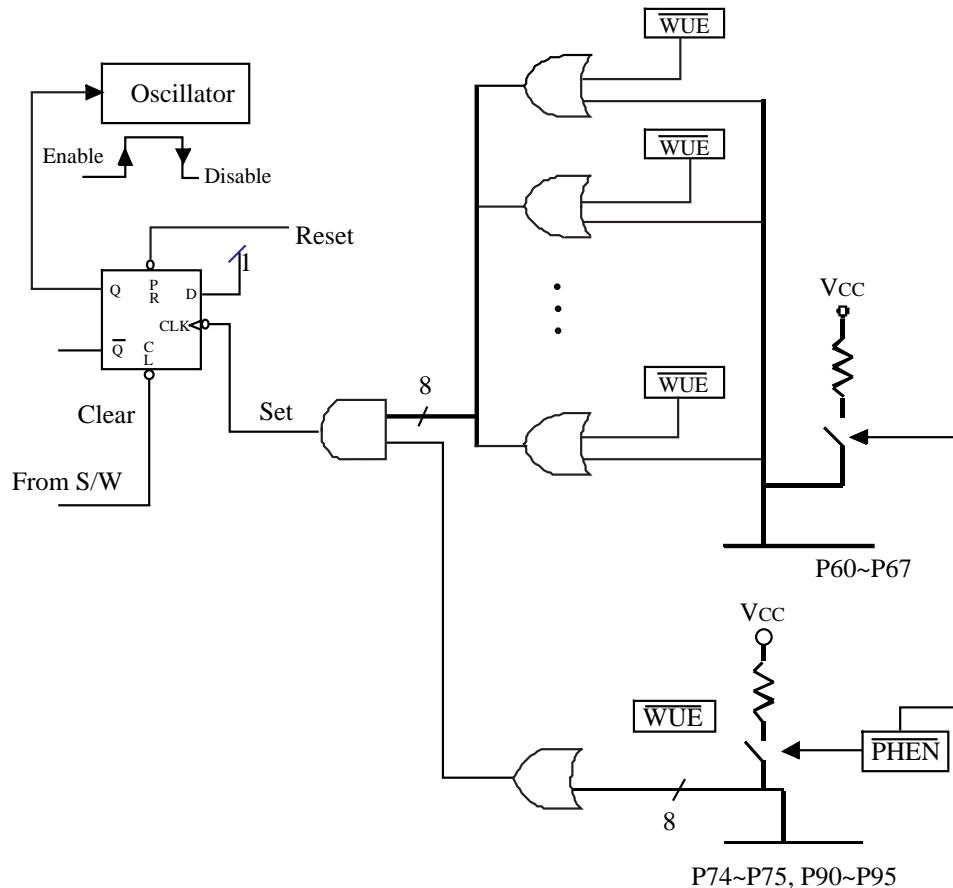

Fig. 5 Block diagram of sleep mode and wake-up circuits on I/O ports
- Bit 4 (SLPC) This bit is set by hardware at the falling edge of wake-up signal and is cleared by software. SLPC is used to control the operation of oscillator. The oscillator is disabled (oscillator is stopped, the controller enters the SLEEP2 MODE) on high-to-low transition on SLPC bit and is enabled (the controller is awakened from SLEEP2 MODE) on low-to-high transition on SLPC bit. In order to ensure the stable output of the oscillator, once the oscillator is disabled and is enabled again, there is a delay for approximately 18 ms (oscillator start-up timer, OST) before the next instruction of program being executed. The OST is always activated by wake-up from sleep mode whether the Code Option bit WTC is “0” or not. After waking up, the WDT is enabled if Code Option WTC is “1”. The block diagram of SLEEP2 MODE and wake-up caused by input triggered is depicted in Fig. 5. SLPC bit is readable and writeable.
- (a) input triggered, refer to Fig. 5. When wake-up, the controller will continue to execute program in-line. In this case, before entering SLEEP2 MODE, the wake-up function of the trigger sources (P60~P67, P74~P75, and P90~P91) should be selected (e.g. input pin) and enabled (e.g. pull-high, wake-up control). One